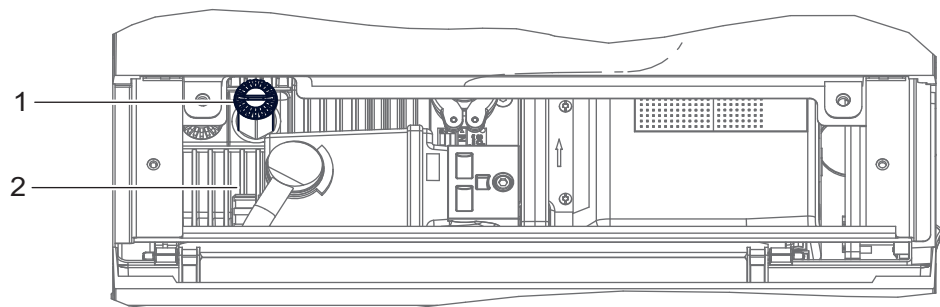

Fig. 14: Oil fill opening
- Loosen the filling plug (1) (Fig. 14).
- Install the funnel in the filling opening (3).